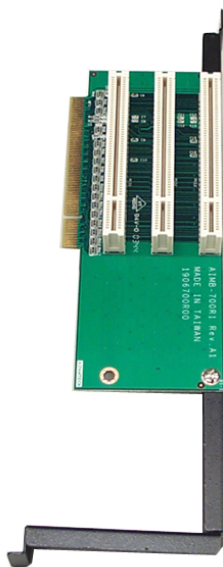
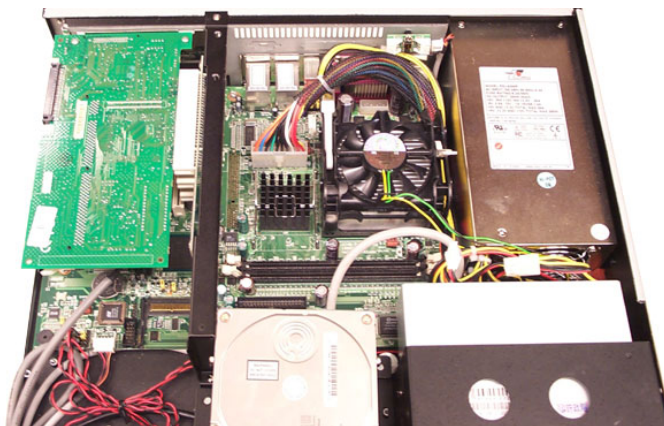

Figure 2.1 Card cage with riser card
Figure 2.2 Installing PCI add-on card
1. Remove the corresponding I/O bracket attached to the rear plate of the chassis (see Figure 2.1). Insert an add-on card vertically into the proper slot on the riser card. For full-length cards, please make sure that the card bracket has been inserted properly and the other edge of the card has been inserted into the plastic guiding fillister. Then fasten the screws on the top of the I/O bracket. (see Figure 2.2)